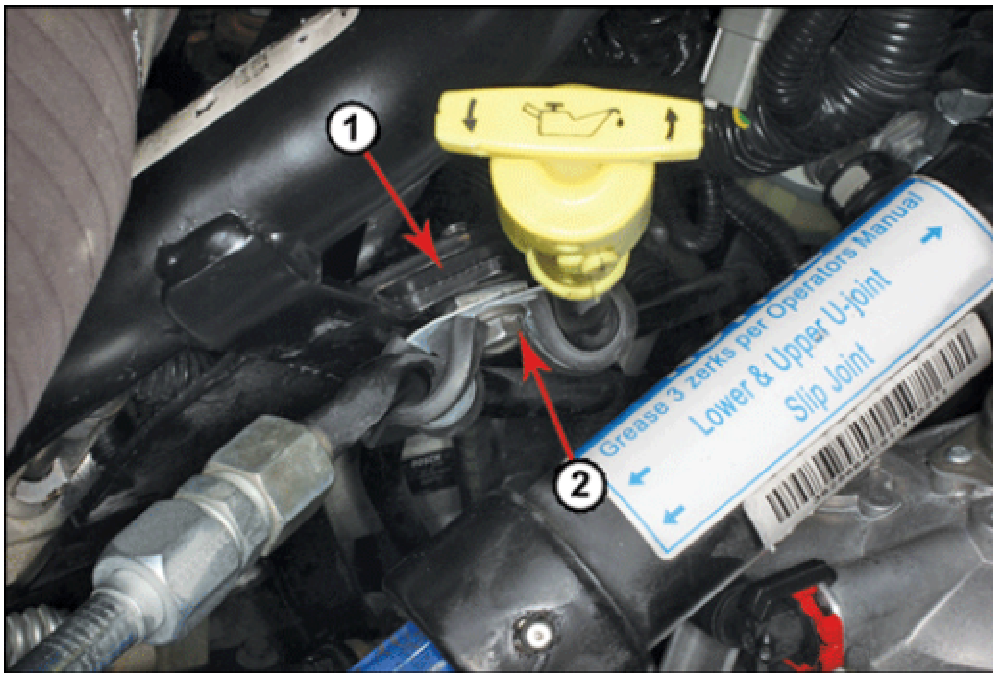
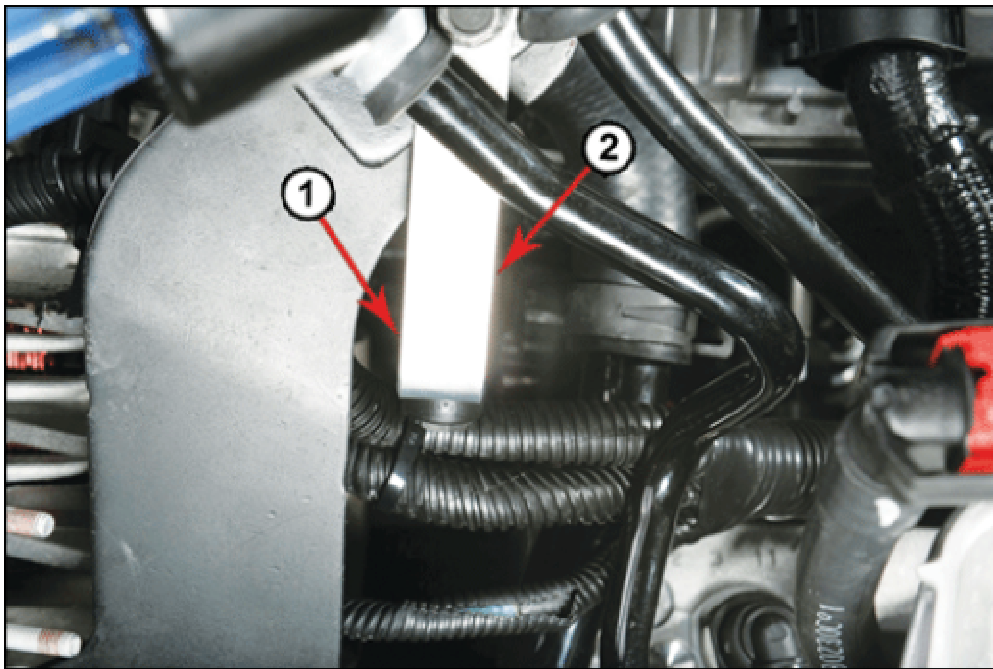

Figure 8
Figure 9
8. Use the same attachment bolt removed in Step 4 to attach the extension bracket (922860R1) to dipstick bracket (Figure 8). Verify the extension is placed at a similar angle (Figure 9).
18. Pull the cable strap tight and cut off excess length. Inspect the re-routed alternator harness and make sure the alternator harness does not rub on the ECM, Power Steering hose, or other objects. Adjust the extension bracket bolt angle (Figure 9), if needed.